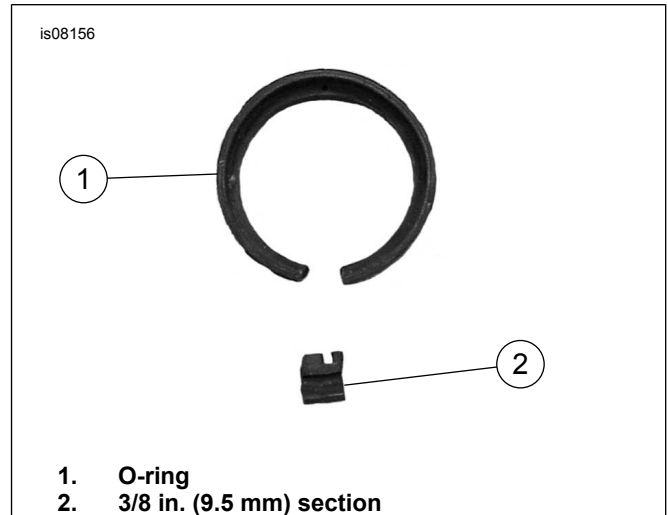

Figure 12. Modify O-ring
- a. Refer to Figure 12. Locate the 3 slots that align the o-ring gasket to the directional housing. Cut a 3/8 in. (9.5 mm) (approximate) section out of the O-ring at the bottom, center slot, position.